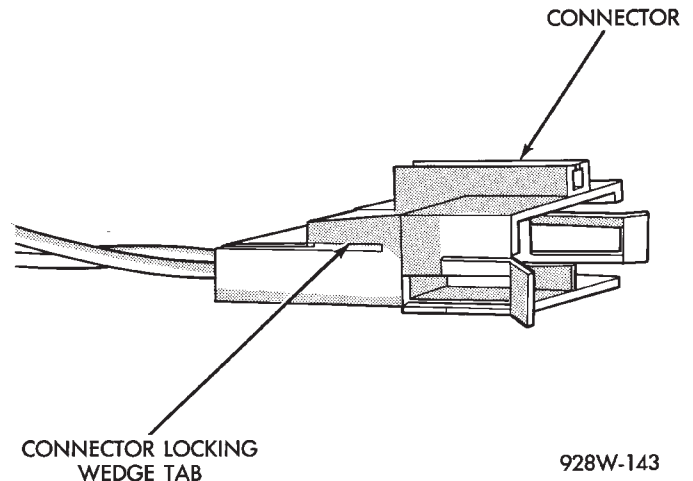

Fig. 15 Connector Locking Wedge
(2) Disconnect the connector that is to be repaired from its mating half/component.
(3) Remove the connector locking wedge, if required (Fig. 15).